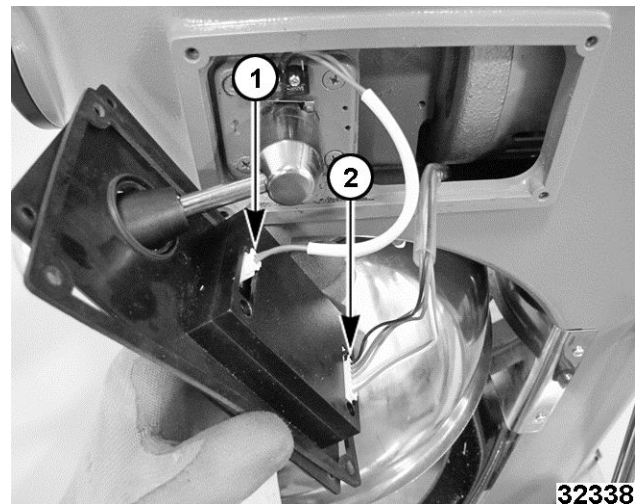

Fig. 10
- Disconnect speed shift switch cable (1, Fig. 10) and power board cable (2, Fig. 10) from control panel.